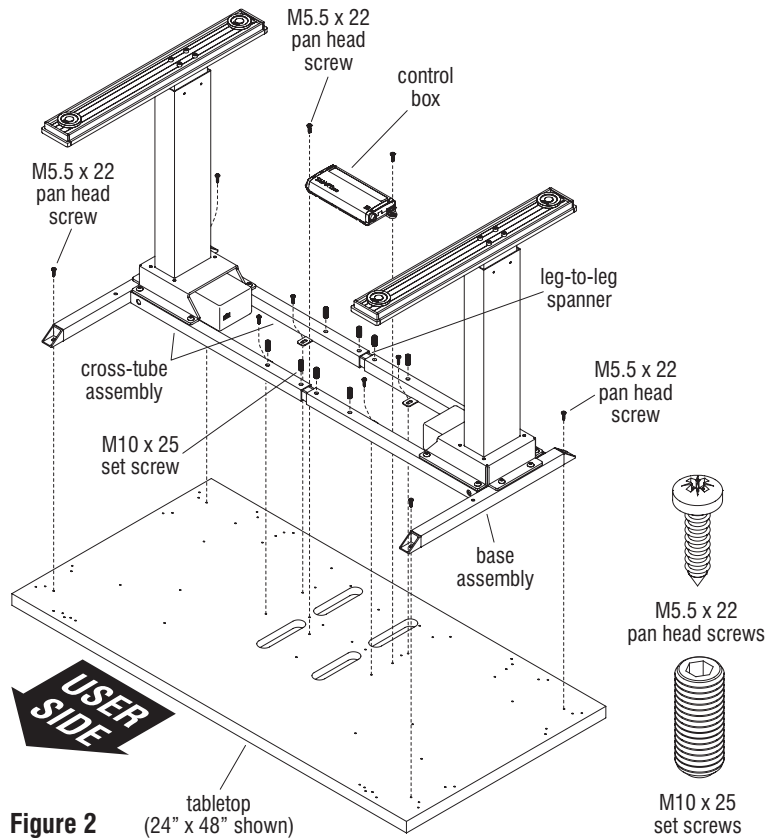

Figure 2
1. Carefully turn tabletop upside down on a soft, protective surface and set the base assembly onto the underside of the tabletop. Position one base end, so base mounting holes align with tabletop mounting holes, and secure base to tabletop using four M5.5 x 22 pan head screws. Slide the other base end into position to align base mounting holes to the tabletop holes and secure with four M5.5 x 22 pan head screws. Insert and tighten eight M10 x 25 set screws as illustrated, through the cross-support tubes and down to the leg-to-leg spanners. Torque to 4.5 ft/lb to secure (Figure 2).
2. The control box may be mounted to the underside of the tabletop, either at the center of the base assembly between the cross-tube assemblies (Figure 2), or at one of three mounting locations behind the base assembly if the table is 30-36" deep (Figure 3). Position the control box over the pre-drilled mounting holes and secure using two M5.5 x 22 pan head screws (Figure 2).